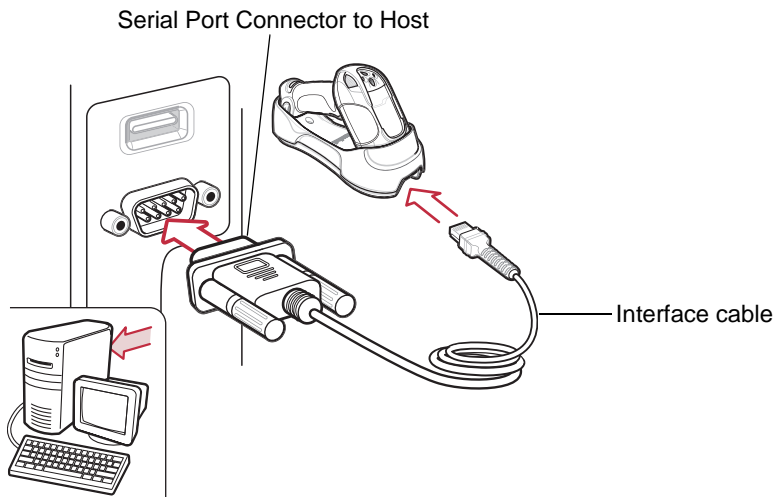

Figure 7-1 RS-232 Direct Connection
- ✓ **NOTE** Interface cables vary depending on configuration. The connectors illustrated in Figure 7-1 are examples only. The connectors may be different from those illustrated, but the steps to connect the cradle remain the same.